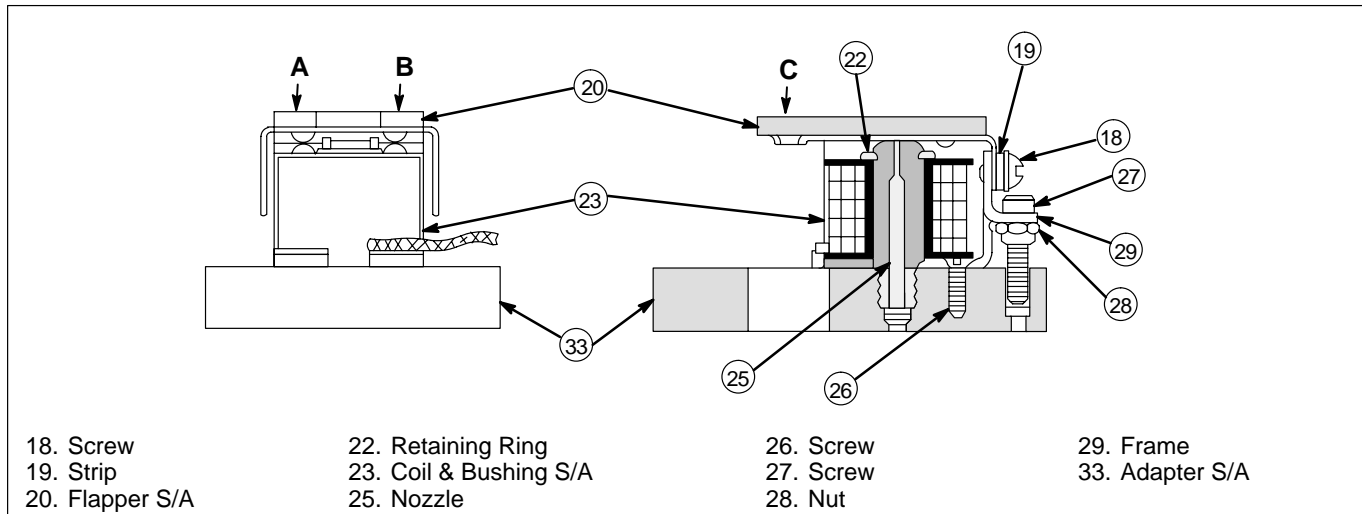

Figure 7. First Stage Subassembly.
h. Position flapper subassembly (20) over nozzle (25) and coil (23) onto frame (29). See Figure 7. Tighten screws (18) to a snug condition.
11. Perform the following flapper subassembly (20) to nozzle (25) alignment procedure. The flapper to nozzle adjustment is very critical. When completed, the top of the flapper must be parallel to the surface of adapter S/A (33) within .001 inch and flat against the top of the nozzle.
a. Visually align the flapper for a parallel condition and tighten screws (18) just enough to keep flapper from moving.
b. Use a two inch (2") micrometer to measure the distance from the top of flapper (20) to the bottom of adapter subassembly (33). Position the flapper to a parallel condition at points **A** and **B** by tapping lightly with a plastic screwdriver handle or similar soft object. See Figure 7. Check top of flapper at point **C**. Adjust screw (27) for a parallel condition of flapper (20) in all planes.
c. Loosen screws (18) again and reposition flapper (20) to touch the top of nozzle. Repeat alignment as above
The flapper must be square to the adapter S/A within .001 inch and flat against the nozzle at final adjustment. This permits the flapper to be an effective orifice governed primarily by the magnetic field developed in the coil. The feedback spring must be removed during the flatness adjustment. See Figure 7. If the flapper is not square, the valves upper flow limit cannot be obtained due to oil slipping through the nozzle orifice at the maximum current setting (the flapper bottoms against the side of the nozzle and does not close off the opening). If the needle valve were opened to obtain the high flow setting, then minimum flow could not be reached. It is recommended that adjustment of the valve be attempted only after all other malfunction possibilities have been checked.